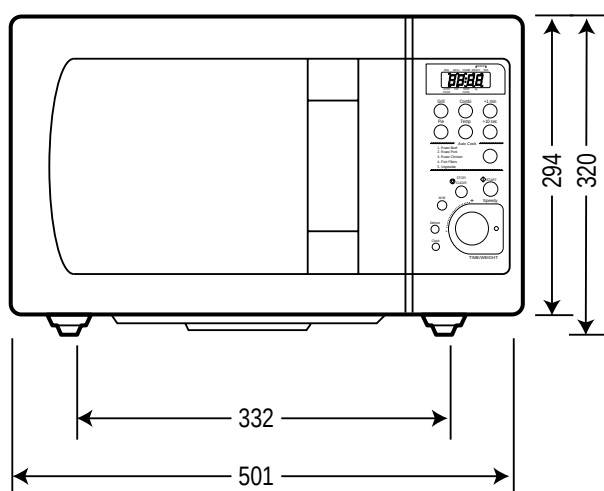

Fig. 1 Front View
1. To remove cabinet. (Refer to Fig. 1)